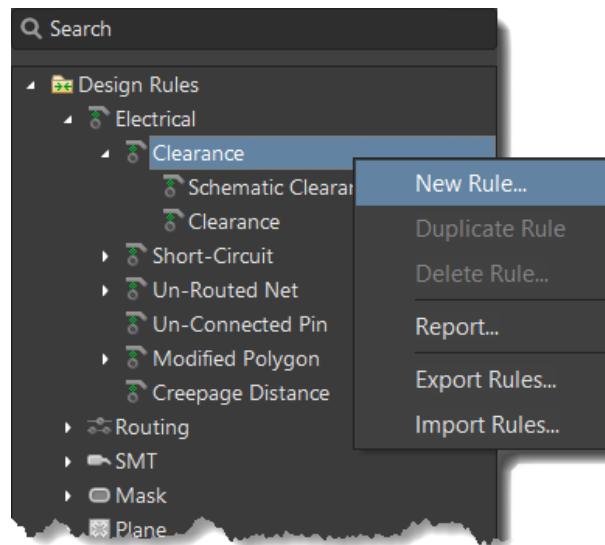

Figure 3. Create a new rule
- c) We will now create a new rule which will target the 12V power net. Right-click on the *Clearance* rule type, just underneath *Electrical* and click **New Rule...**, Figure 3.